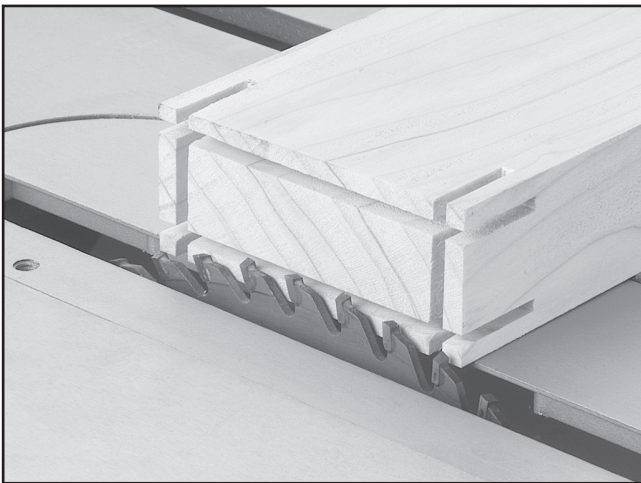

Figure 25. Adjusting the saw blade height.
2. Adjust the saw blade height to cut the tenon structural shoulder as shown in **Figure 25**.